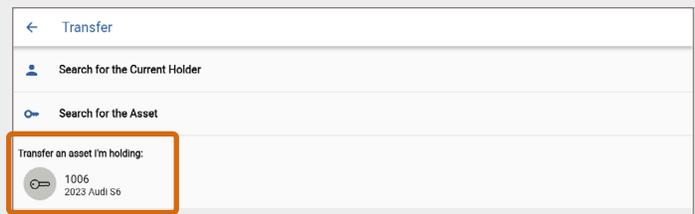

Fig. 121 – Transfer screen – Transfer an asset I'm holding
3. On the **Transfer** screen, if you have a key or dealer plate and want to transfer it to another user, select the key or dealer plate from the **Transfer an asset I'm holding** list, as shown in Fig. 121.